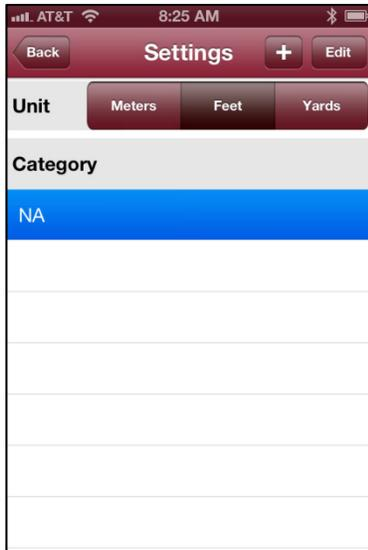

Figure 7
When Settings is selected from the Main screen, the user may select the unit of measurement as well as add multiple categories and subcategories of measured items that will be referred to throughout a measurement project. See an example of the Settings screen below (Figure 7):
1. Tap the **+** button (Figure 7).